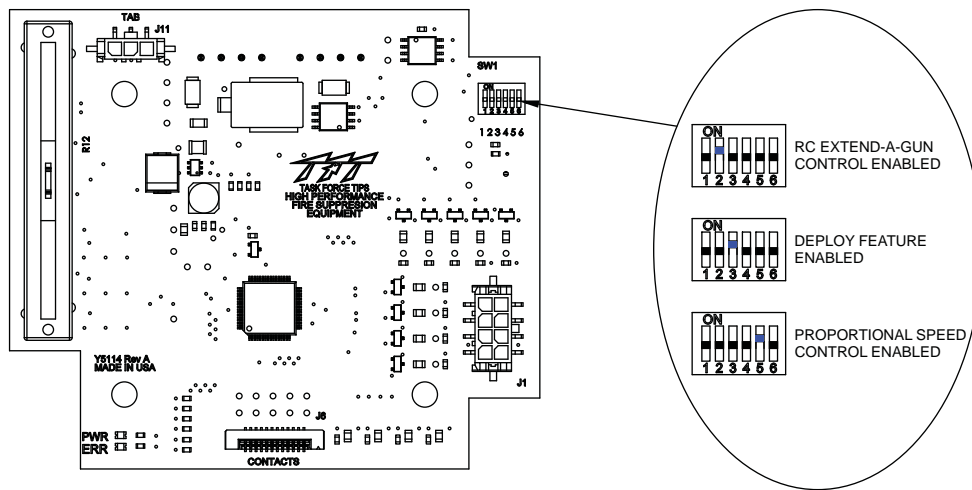

Figure 4.8.3
3. Locate DIP switches on board and select configuration based on Figure 4.8.3.